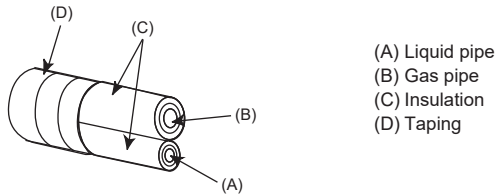

Fig. 4-1
(A) (Fig. 4-1)
(B) (Fig. 4-1)
### 4.2. Connecting pipes (Fig. 4-1, Fig. 4-2)
When commercially available copper pipes are used, insulate both the liquid and gas pipes separately with commercially available insulation materials (heat-resistant to 100°C, 212°F or more, thickness of 12 mm, 1/2 inch or more). (Fig. 4-1)